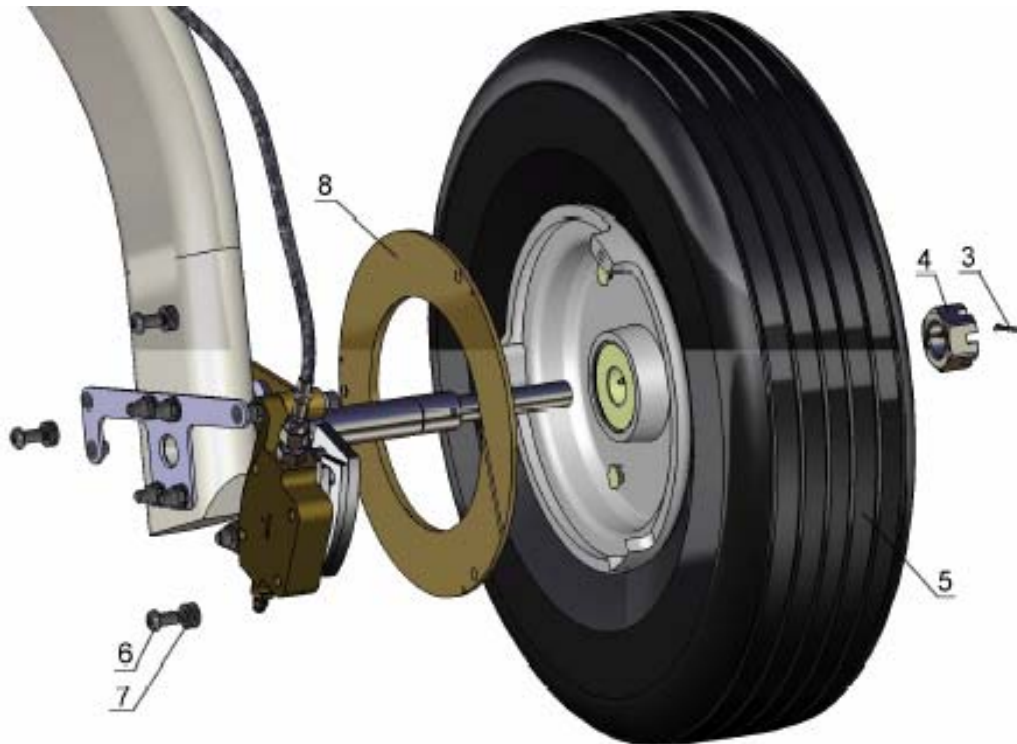

Fig 3
- Remove lock pin item3 fig.3, unscrew nut item 4 fig.3.
- Unscrew 3 screws item 6, remove nord-lock washers item 7 fig.3.